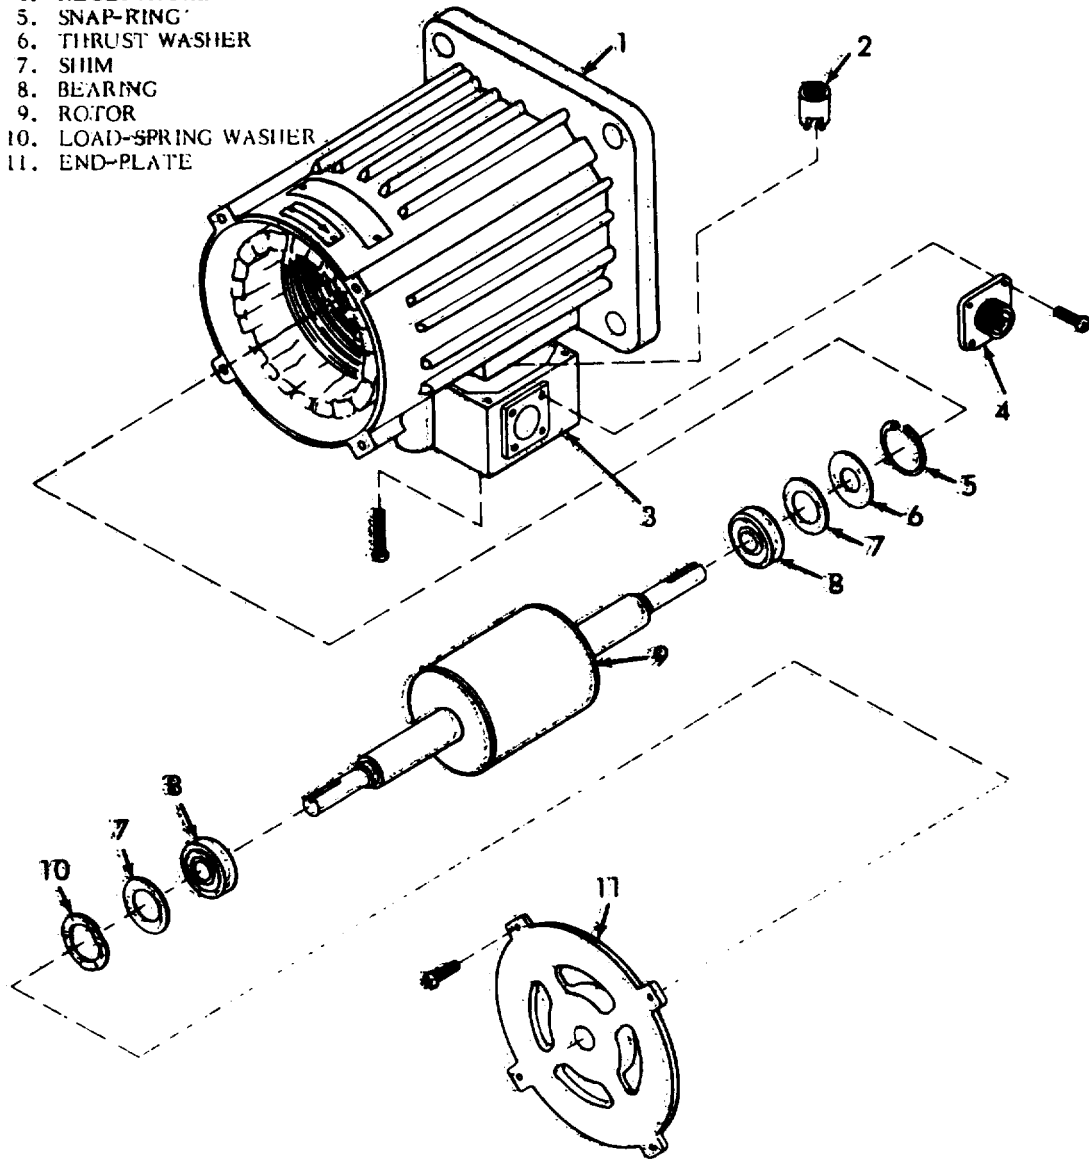

Figure 5-13. Fan Motor Details.
### 5.112. Removal (See figure 5-13).
- g. Unscrew but do not remove four screws attaching the baffle (figure 5-13) to the mounting assembly. Remove the baffle, with screws and spacers attached, as a unit.
a. Remove four screws from the 3-3/4-inch bolt diameter of the end plate (11, figure 5-13), and remove the end plate.
b. Withdraw the rotor (9) from the stator (1), and put aside until needed for assembly.
c. Using an arbor press or equivalent, press the bearings (8) out of the end plate and the stator, being careful to avoid cocking.
d. Remove four screws from the corners of the junction box (3, figure 5-13) and lift box away from stator.
f. Remove four screws from corners of connector, and remove connector from junction box (3).
Assemble the motor as directed in the following procedure (See figure 5-13).
b. Install receptacle (4, figure 5-13) in junction box (3), and secure with four screws.
c. Position junction box (3) on motor frame (stator); and secure with four screws through corners.
d. Install a bearing (8), shim (7) and washer (6), in that order, on the shorter shaft of the rotor (9). Insert the rotor into the stator (1), and guide the bearing into the bearing recess in the stator.
e. Place a bearing (8), shim (7) and load spring (10) in that order, over the longer shaft of the rotor (9). Carefully fit end-plate (11) over the assembly, guiding the bearing into the bearing recess.
f. Secure the end plate (11) to the stator (1) with four screws, tightened uniformly in increments. Attempt to turn shaft by hand. If shaft does not turn freely, check assembly of end plate on stator, and adjust if necessary.